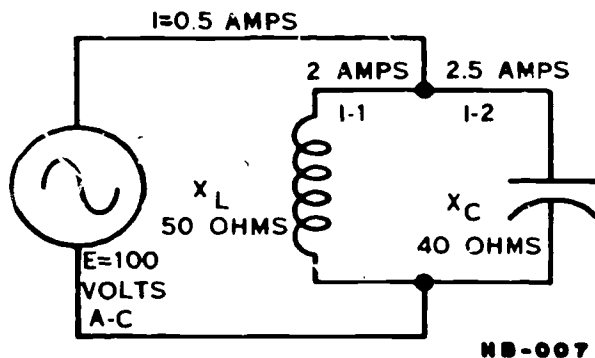

Figure 4-18. Parallel AC circuit.
Figure 4-18 illustrates a parallel arrangement of a capacitor and an induction coil. Since they are in parallel with the source of power, we know that each device has 100 volts applied to it. Thus, you can check the listed values with Ohm's law for AC to verify that they are correct. The total current for the circuit should restore to your memory that this type of circuit is characterized by having minimum current at resonance. Also, we can conclude that a circuit which has minimum current must have high impedance. The primary need in equipment with this type of circuit is voltage stability for one frequency and good discrimination against the off-resonance frequencies. Indeed, a parallel-resonant circuit is widely used in electronic circuits for restricting frequencies while passing another frequency or for passing a frequency and its band (closely related frequencies).
- ___ 2. The circuit of figure 4-18 is resonant.
- ___ 5. The total opposition for the circuit of figure 4-18 is 200 ohms.